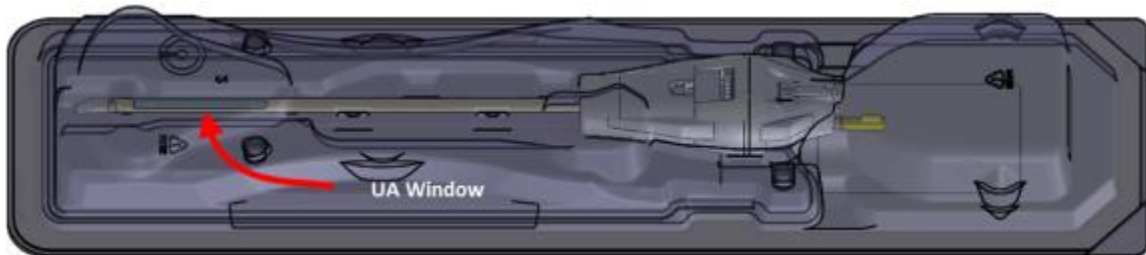

Figure 11: Examine the UA window for air bubbles
- d. Look through the package and carefully inspect the UA window for bubbles (Figure 11). There should be **no** bubbles of **any** size. If you see bubbles, gently tap the package-end close to the UA window against the work surface to dislodge them. If you still see bubbles, repeat the procedure, starting from step “a”.